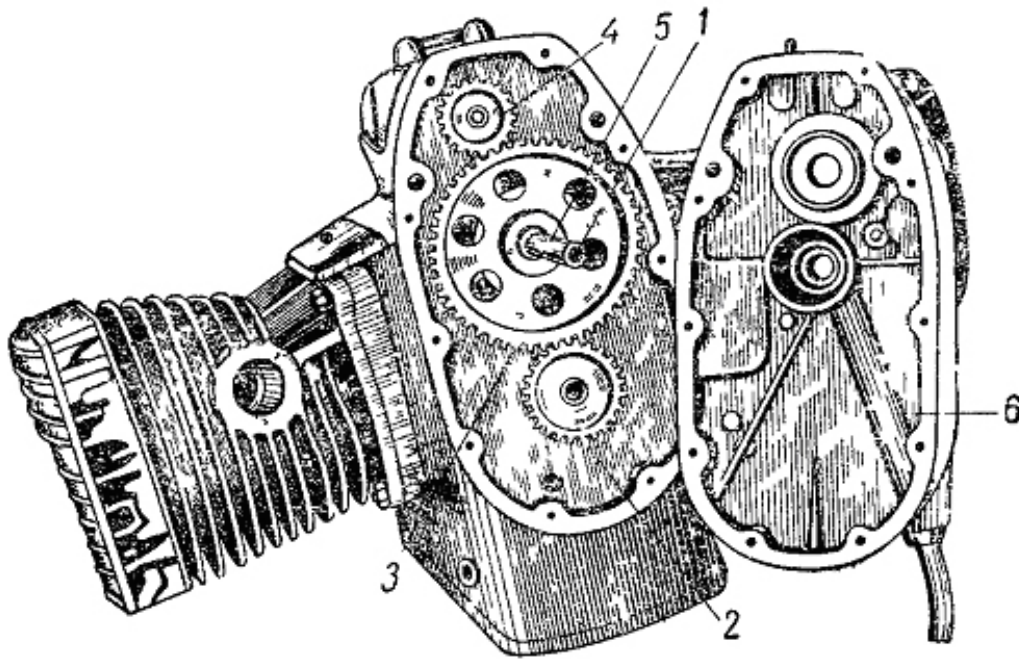

Fig 10
In order to prevent compression of oil by the mutual approximation of the pistons in both cylinders and to prevent an unnecessary drop of the air pressure in the housing, a breather tube (6) is mounted at the end of the cam shaft (fig. 10).
If dismantling the engine the correct adjustment is determined by meeting the adjusting markings (fig. 10) at the gears of the crankshaft and the cam shaft. Every 7500 to 8000 km the valves must be ground in and the cylinders and pistons cleaned of carbon deposits.